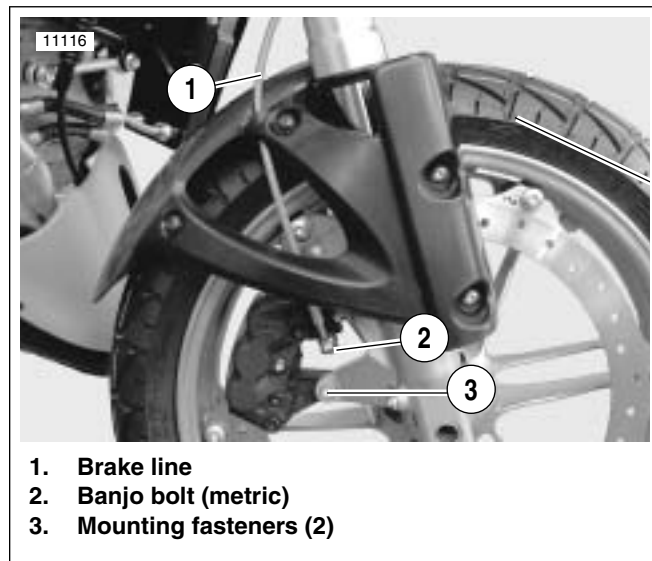

Figure 2-47. Front Brake Caliper
2. See Figure 2-47. Disconnect brake line at caliper. See 2.11 FRONT BRAKE LINE.
3. Remove caliper mounting fasteners (3).